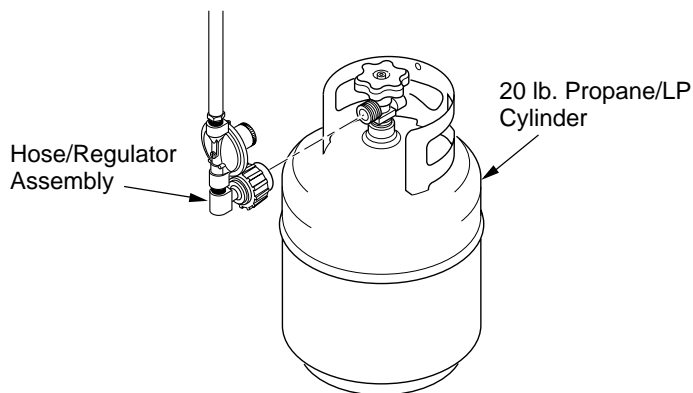

Figure 10 - Connecting Hose/Regulator Assembly to Propane/LP Cylinder
10. Using only a 20 lb. propane/LP cylinder, not included (see safety information for proper cylinder selection), connect the hose/regulator assembly to the cylinder (see Figure 10). When connecting regulator assembly to cylinder valve, hand tighten nut clockwise to a positive stop. **DO NOT** use a wrench to tighten. Use of a wrench may damage quick closing coupling nuts and result in a hazardous condition.
2. Using only a 20 lb. propane/LP cylinder, not included (see safety information for proper cylinder selection), connect the hose/regulator assembly to the cylinder (see Figure 10, page 5). The hose should already be connected to the heater. When connecting regulator assembly to cylinder valve, hand tighten nut clockwise to a positive stop. **DO NOT** use a wrench to tighten. Use of a wrench may damage quick closing coupling nuts and result in a hazardous condition.